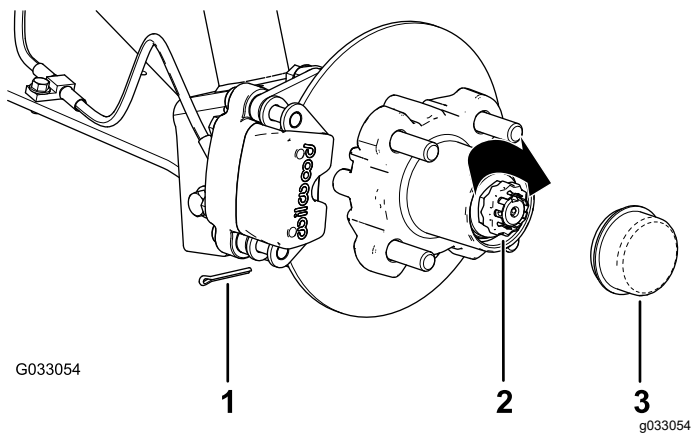

Figure 31
8. Install the retainer over the nut and check the alignment of the slot in the retainer and the hole in the spindle for the cotter pin (Figure 31).
9. Install the cotter pin and bend each legs around the retainer (Figure 31).
10. Install the dust cap onto the hub (Figure 31).